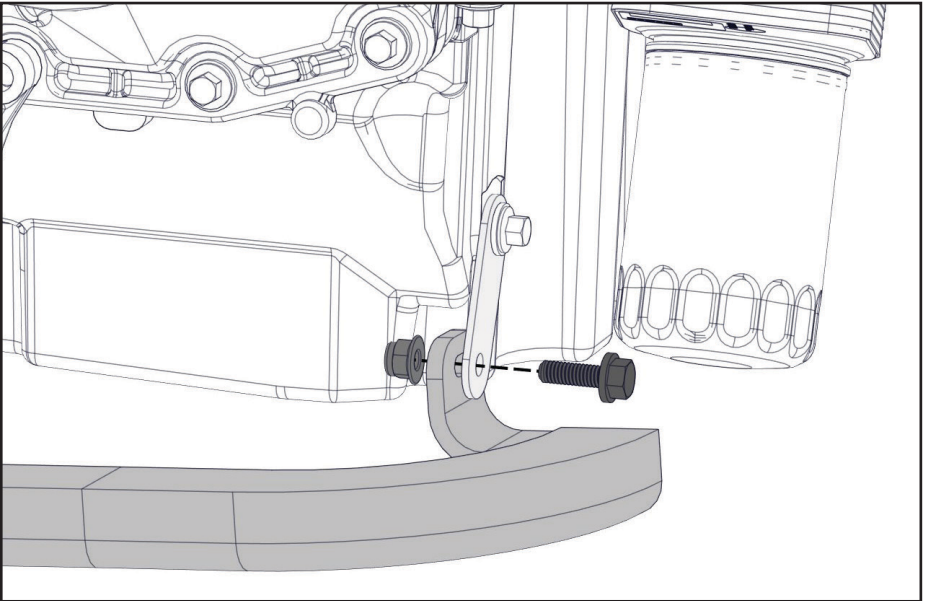

Figure 63 — Secure cable tray
- Using the supplied fasteners, secure the cable tray to the bracket (Figure 63).